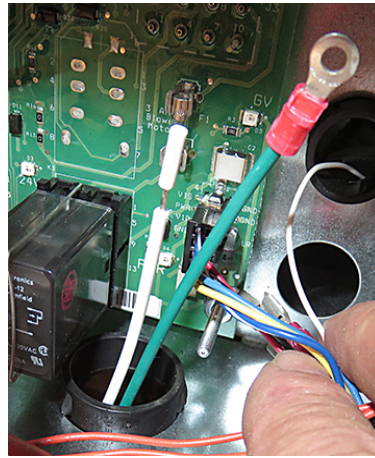

Figure 18
27. Route the green ground wire and the white wire from the new harness from step 18 up through the grommet in the bottom of the control box (see Figure 18).